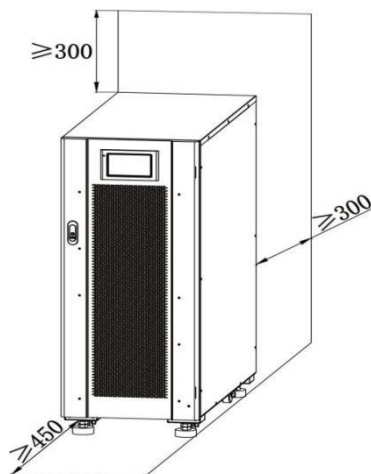

Fig. 3-1 Clearance of 80 kVA UPS (units : mm)
- A certain amount of operation and ventilation space shall be reserved around the cabinet. Reserve at least 450 mm space for ventilation and operation in the front, at least 300 mm space for operation in the top, and at least 300 mm space for ventilation at the back. If it is required to operate at the back, reserve at least 800 mm space. Take 80 kVA UPS as an example shown in Fig. 3-1.